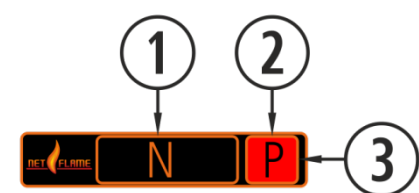

Figure 4
To turn the stove on we have to push the  button (On-Off) on the control panel. Point ③ of figure 4 will change colour, as the stove goes through the different ignition phases.
This icon comes together with the safety message signal Axxx, see *figure 4* section ③. It may indicate a failure of the stove sensors or engines. Please, see table included below